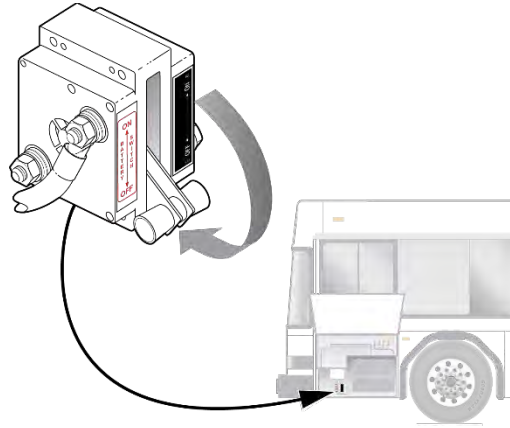

Fig. 2.3
1. Disable the system by flipping the 12/24V front disconnect switch downward, as show in Fig. 2.3: